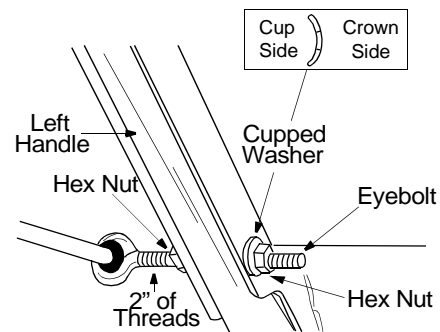

Figure 16
3. Thread one hex nut onto the eyebolt on the chute directional control assembly until there is at least two inches of threads showing between the nut and the head of the eyebolt. See Figure 16.
4. Place the eyebolt into the hole located half way up the left handle. Secure with cupped washer (cupped side against the handle, see inset) See Figure 16.